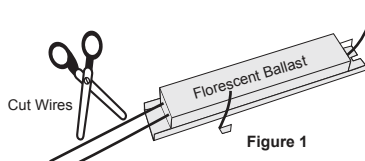

Figure 1
Step 6: Cut the line and neutral wires at the ballast, as well as all remaining wires at the ballast (see Figure 1).